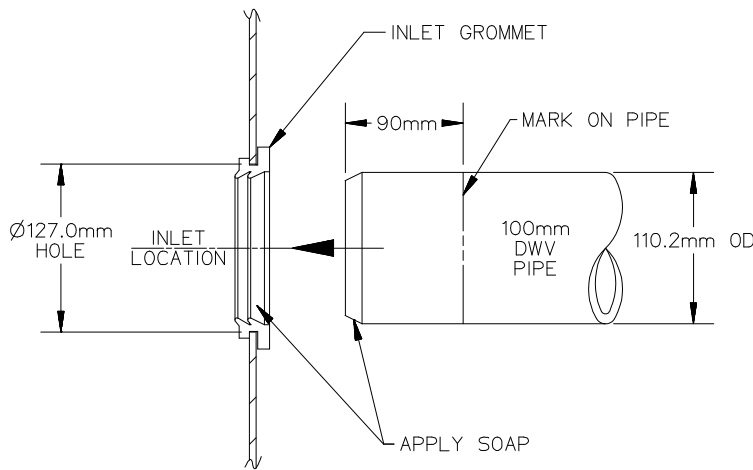

Fig. 4 - Inlet Installation
5. Inlet Installation (Refer to Figure 4)